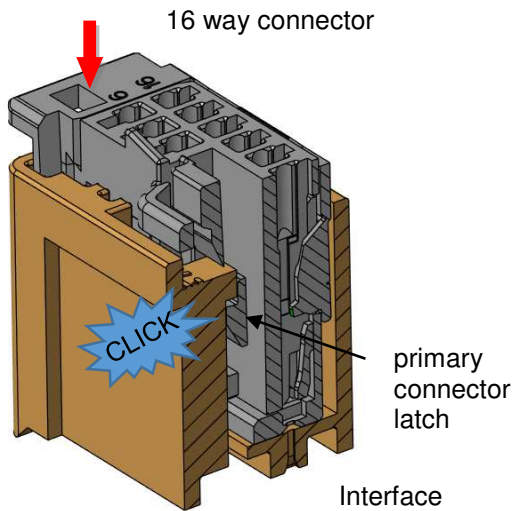

Figure 10: Connector Mating
3. To mate connector, push on housing base or sides only. Push the connector forward until primary connector latch “CLICKS” or felt and engages the interface latch tooth. See Figure 10.